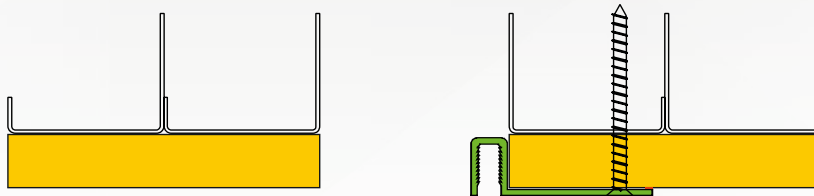

Figure 2.
STEP 2. Attach the Extruded retainer to the wall or ceiling using the anchors with spacing the anchors a maximum of 50 cm. o.c. The anchor at the ends of the extrusion must be a maximum of 25cm. from the end of the extrusion. (figure 2)